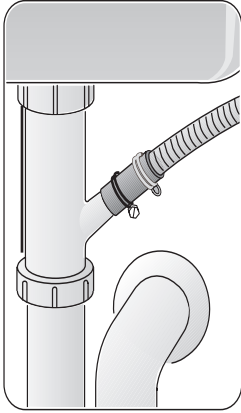
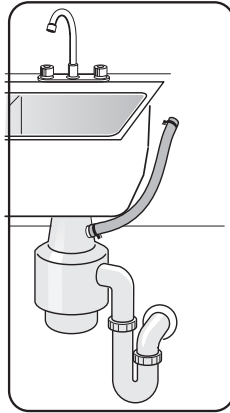

Figure 20
Figure 21
1. Directly to the undersink dishwasher drain connection, as shown in Figure 20.
2. Directly to a disposer dishwasher drain connection, as shown in Figure 21.
NOTE: If the dishwasher drain hose is to be connected to a disposer dishwasher drain connection, remove the plug from the disposer's dishwasher drain connection. Use the supplied Rubber Connection Hose and Drain Hose Clamps (letter G in the Materials Supplied section of this manual) to connect the dishwasher drain hose to the plumbing drain connection. Use the spring clamp to secure the Rubber Connection Hose to the dishwasher drain hose. Use the screw clamp to secure the Rubber Connection Hose to the plumbing drain connection. If the dishwasher drain hose is connected directly to either an undersink dishwasher drain connection, as shown in Figure 20, or to a disposer dishwasher drain connection, as shown in Figure 21, form a curve in the dishwasher drain hose and secure a portion of the curve at least 20" (508mm) above the cabinet floor.